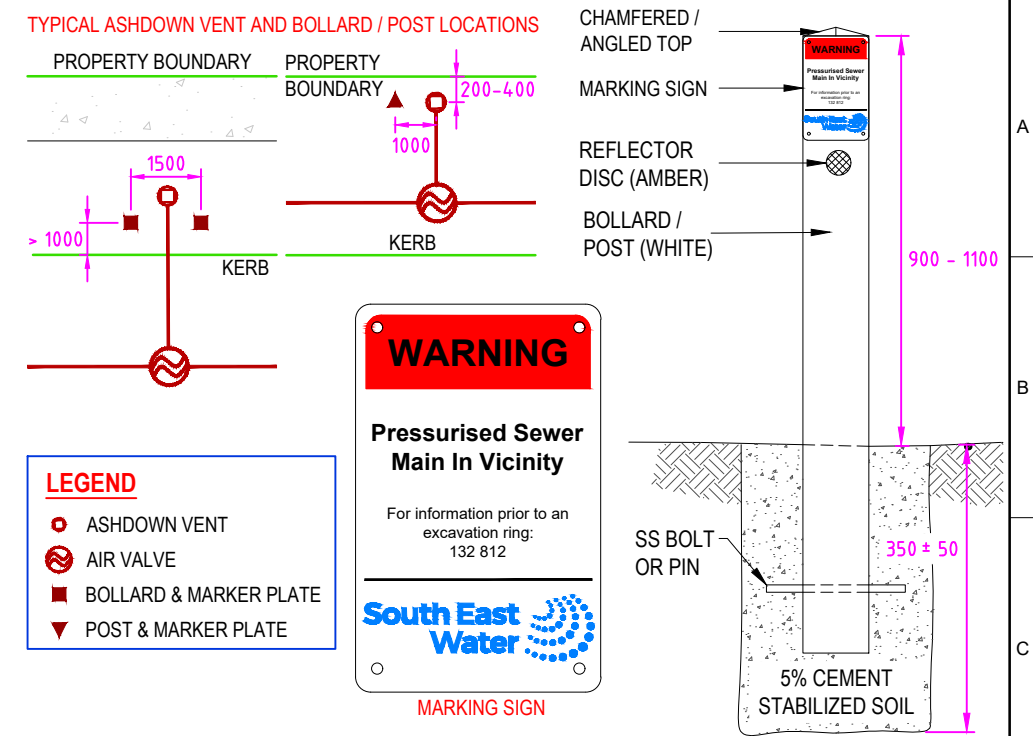

FIGURE 3: ASHDOWN VENT LOCATION, PROTECTION AND MARKING ARRANGEMENTS
22	BOLLARD(S) OR POST WITH MARKER PLATE. REFER FIGURE 3